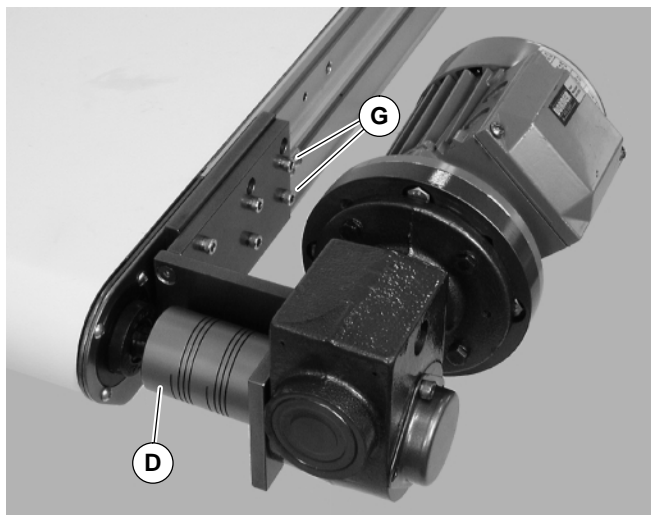

Figure 7
5. Install coupling (D of Figure 7) onto drive output shaft. Attach drive assembly to conveyor with mounting screws (G). Install medium length screws on bottom, long screw upper left, short screws upper right. Tighten screws to 110 in-lb (12 Nm).
3. Remove mounting screws (G of Figure 7) and remove drive assembly.